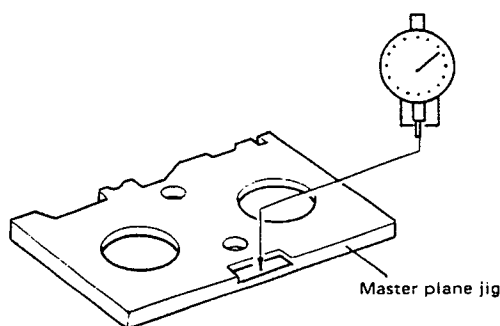

Fig. 16 Master plane jig setting
1. Set the master plane jig as shown in Fig. 16.